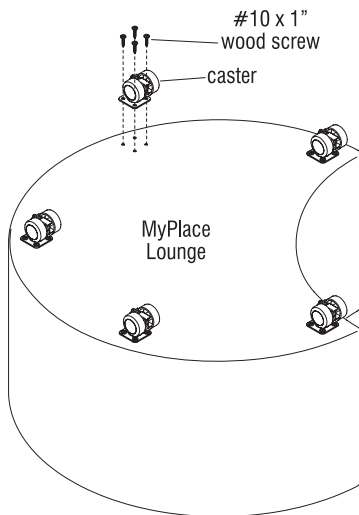

Figure 2
2. Using a Phillips screwdriver, remove the four #10 x 1" screws that secure the caster (Figure 2).
3. Attach the new caster to the same location as the old one using the #10 x 1" Phillips head screws (Figure 2).